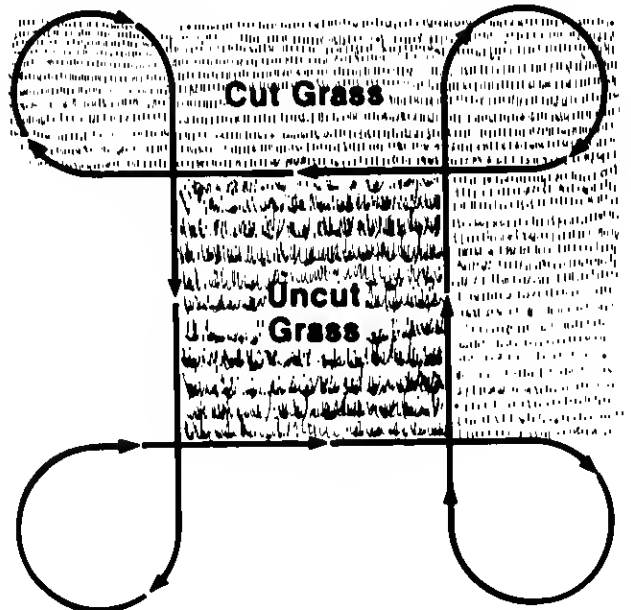

Figure 29
4. Follow the mowing procedure shown in Figure 29.